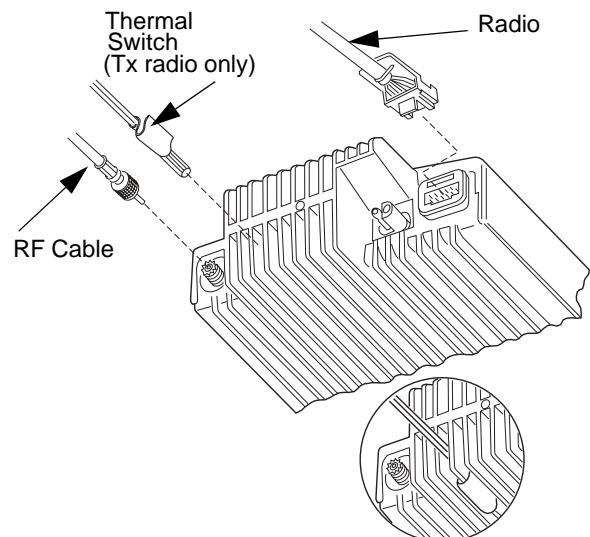

Figure 3-1. Professional Series Transmit Radio, Rear View
2. Locate the thermal switch mounting clip supplied with the Control Station. Slip the mounting clip onto the thermal switch, from the power supply. Refer to Figure 3-1.
3. Place the thermal switch and mounting clip, in-between the long fins (5 and 6 on the antenna connector side) of the radio's heatsink. Refer to Figure 3-1.